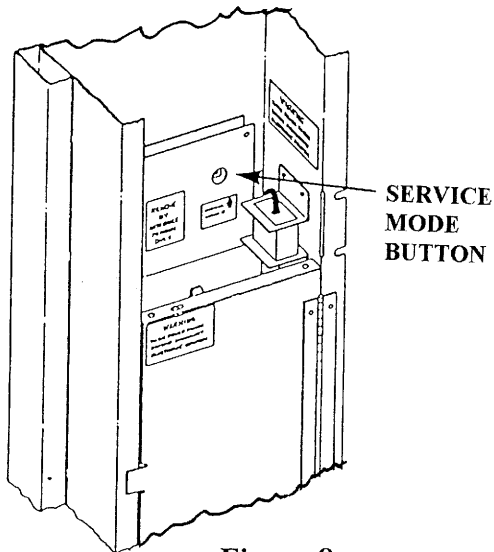

Figure 8
2. Locate the Service Mode Button on the inside upper portion of the outer door. See **Figure 8**.